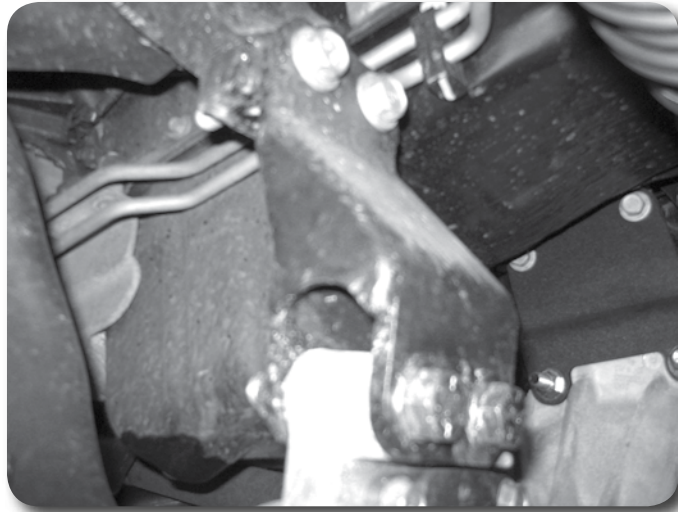

Figure. 13
32. Install the provided passenger's side differential drop bracket to the original frame mount with $1/2"$ hardware '08 models will use factory hardware. Leave hardware loose. **Figure. 13**